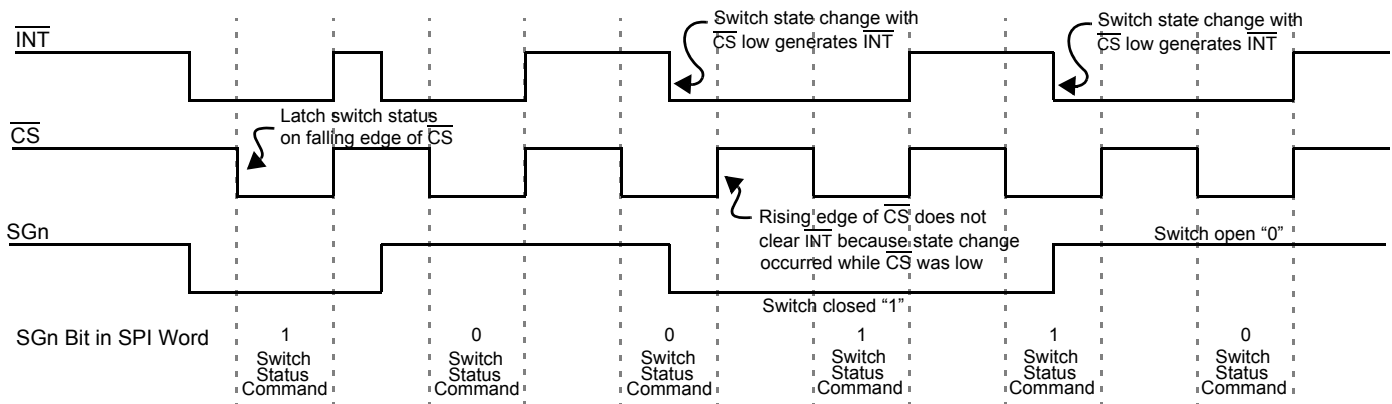

Figure 4. Normal Mode Interrupt Operation
2.  $\overline{INT}$  pin is reset to logic [1], except when additional switch changes occur during CS low. (See Figure 4 on page 8.)
Figure 4, page 8, is a graphical description of the device operation in Normal mode. Switch states are latched into the input register on the falling edge of  $\overline{CS}$ . The  $\overline{INT}$  to the MCU is cleared on the rising edge of  $\overline{CS}$ . However,  $\overline{INT}$  will not clear on rising edge of  $\overline{CS}$  if a switch has closed during SPI communication ( $\overline{CS}$  low). This prevents switch states from being missed by the MCU.